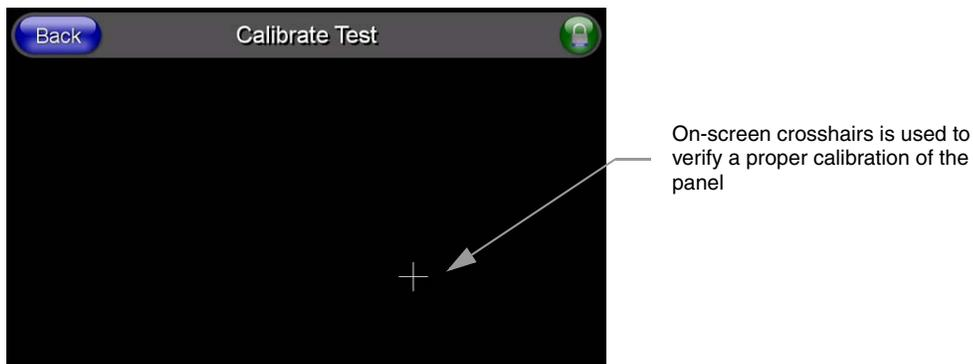

FIG. 46 Calibration Test page
1. Press and hold down the on-screen **Calibration** button for 6 seconds to enter the Calibration Test page (FIG. 46).